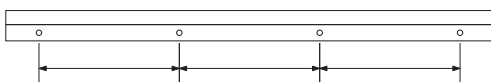

Fig.1
- After selecting the location of the mirror cabinet, check whether the wall is solid, measure the distance of the holes in the aluminum alloy bar with a tape measure and mark the wall with a level and pencil (Fig. 1).